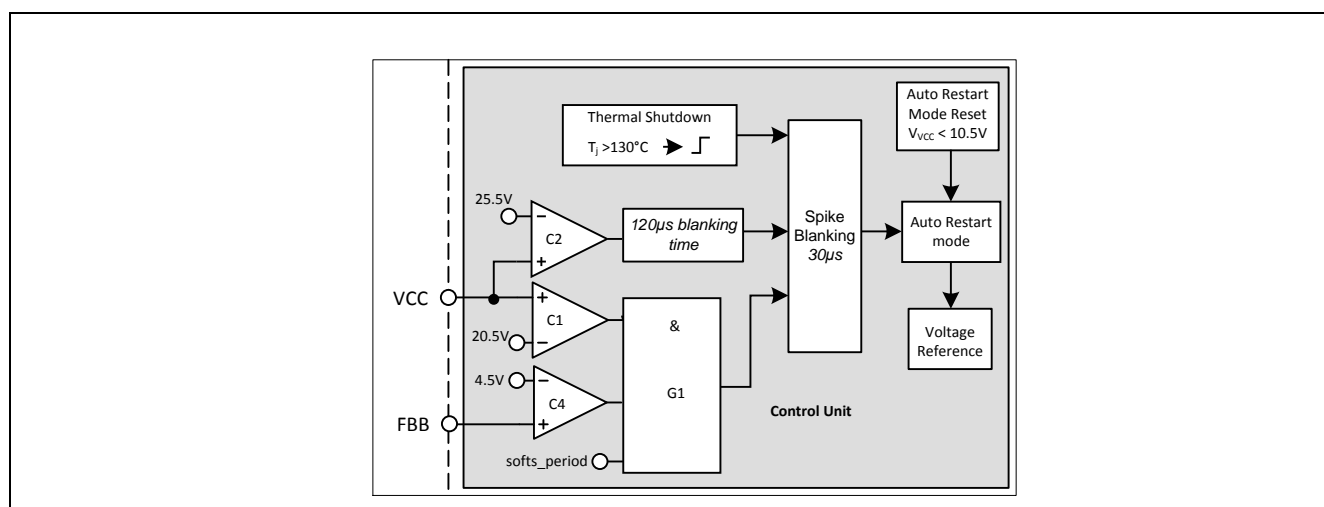

Figure 30: Vcc OVP and OTP
Vcc OVP (1) condition is when V_{VCC} voltage is > 20.5V, V_{FBB} voltage is > 4.5V and during soft start period, the IC enters into odd skip Auto Restart Mode. This condition likely happens during start up at open loop fault (Figure 30).
V_{CC} OVP (2) condition is when V_{CC} voltage is > 25.5V, the IC enters into odd skip Auto Restart Mode (Figure 30).
The over temperature protection OTP is sensed inside the controller IC. The Thermal Shutdown block keeps on monitoring the junction temperature of the controller. After detecting a junction temperature higher than 130°C, the IC will enter into the non switch Auto Restart mode. The ICE3AR1080VJZ has also implemented with a 50°C hysteresis. That means the IC can only be recovered when the controller junction temperature is dropped 50°C lower than the over temperature trigger point (Figure 30).